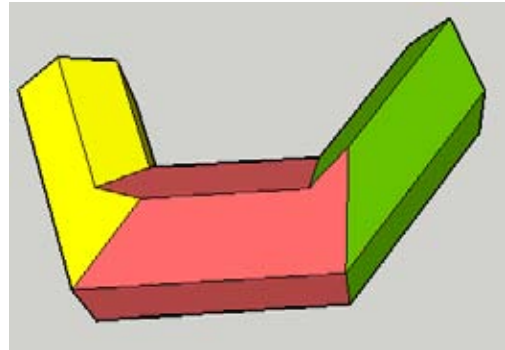

Figure 5-74
12. Trim to resolve the corner (Figure 5-74), and you're finished.